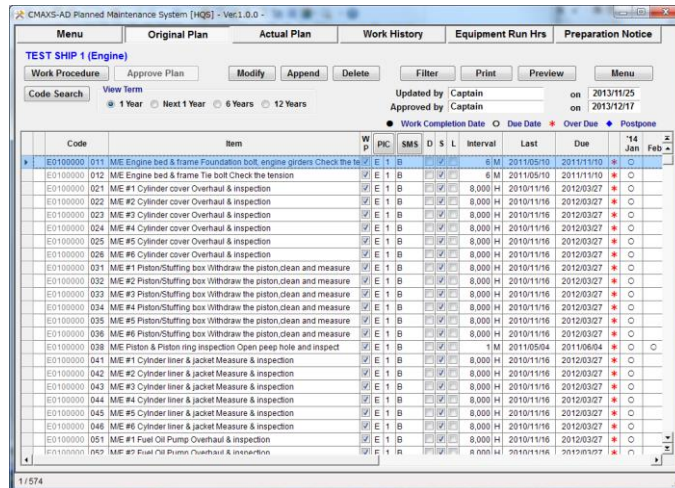

Fig.14-1 Original Plan Screen
- (1) Select [Code Search] button on the "Original Plan Screen" (Fig.14-1).
- (2) Select [+]mark of equipment and maintenance item data. Then, select [Ok].
- (3) Selected data is displayed on top of data list.